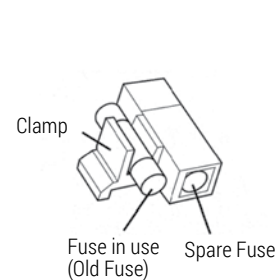
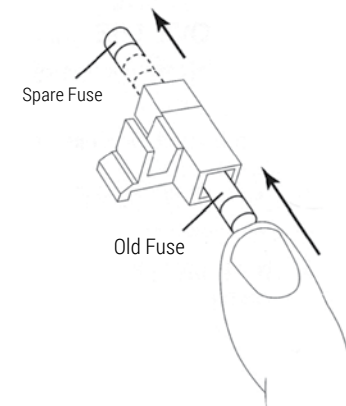

FIGURE 1
FIGURE 2
An Encompass PowerTower that is for use on a nominal 120-volt circuit has a grounding plug that looks like the plug illustrated in Figure 1. A temporary adapter that looks like the adapter illustrated in Figure 2 may be used to connect this plug to a 2-pole receptacle as shown in Figure 2 if a properly grounded outlet is not available.
The temporary adapter should be used only until a qualified electrician can properly install a grounded outlet (Figure 1). The green colored rigid ear, lug or the like extending from the adapter must be connected to a permanent ground such as a properly grounded outlet box cover. Whenever the adapter is used, it must be held in place by a metal screw.
4. There are (2) 5A fuses in the fuse assembly. One is a spare.
5. The other is in use (Fig. 1).
7. Push the old fuse far enough into the hold of the fuse assembly to release the spare fuse (Fig. 2).